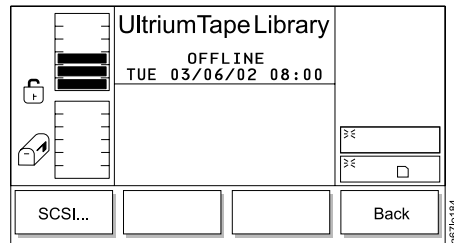

Figure 123. Drives Submenu
3. Press the button below the **Drives** softkey. The Drives Submenu displays (see Figure 123).
6. To return to the Drives Submenu (see Figure 123), press the button below the **Cancel** softkey. To return to the Main Menu, press the button below the **Cancel** softkey, then press the button below the **Back** softkey until the Main Menu displays.